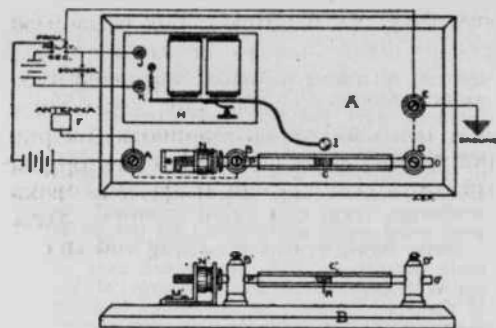

FIG. 1.
Fig. 1.—(A) is the top view of one of these, made on the plan of the original Marconi type and (B) of the same figure is the elevation of the coherer alone. (C) is a piece of glass tubing $1\frac{1}{2}$ " in length, $\frac{1}{8}$ " inner diameter, and of sufficient strength to withstand the tapping of the metal ball, (I). Inside of this tube are fitted two pieces of brass nicked-plated rod (O' and P') preferably, and as snugly as possible. (O') is clamped fast by the binding post (D'), while (P') has a thread on it—or is soldered to the head of a dry battery binding post—and can be adjusted by the nut (N'). After the proper adjustment of this is obtained, the binding post (B') clamps it in its correct position.
In general the same instrument is used as that represented by Fig. 1-B, without a de-coherer. Also the inner ends of the electrodes are cut off squarely, instead of slantingly. And, in every case, the tube and its contents should be absolutely dry.